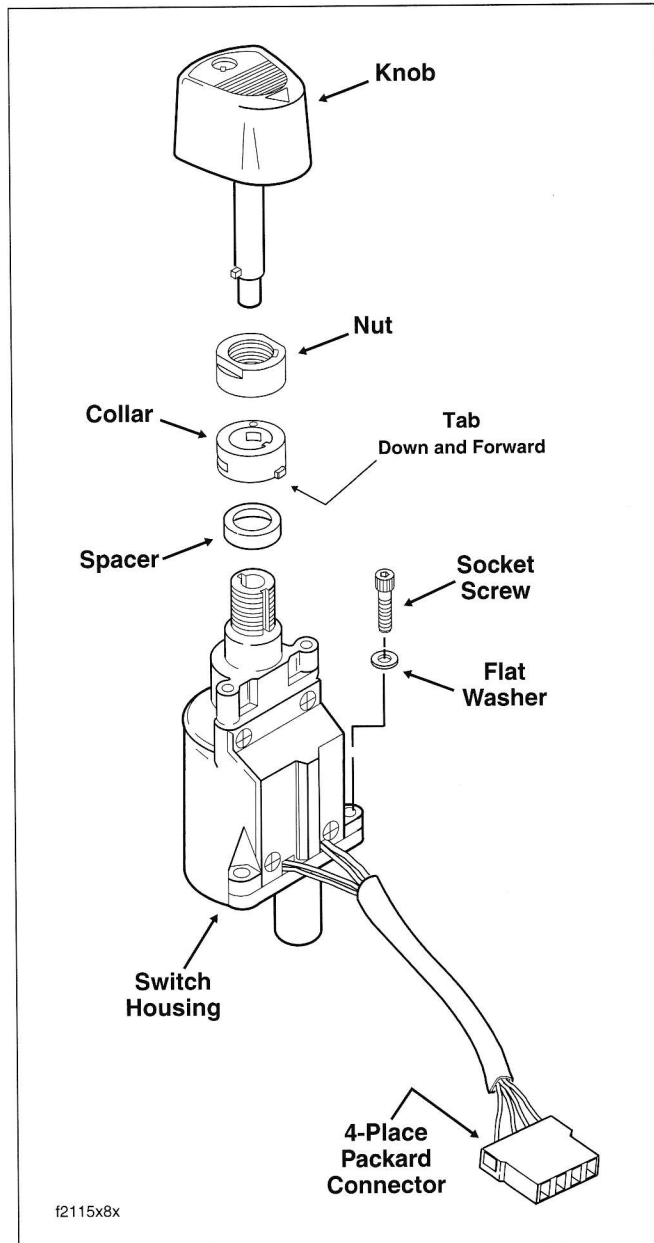

Figure 8-63. Ignition Switch Assembly (Domestic)
3. Using a 7/8 inch wrench on flats, loosen switch nut and remove from threaded post of ignition switch housing. Remove collar and spacer. See Figure 8-63.